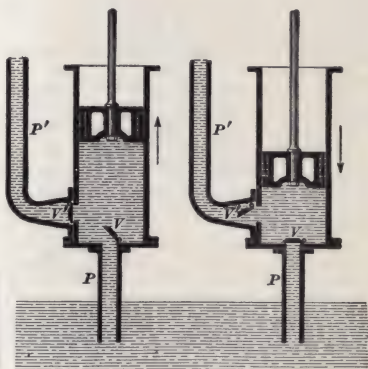

FIG. 27.
**73. Force Pumps.**—The force pump differs from the lifting pump in one important particular, that is, in the fact that its piston is solid. A section of a force pump is shown in Fig. 27. As the piston ascends, as shown in the left-hand figure, the pressure of the atmosphere forces the water up the suction pipe  $P$ ; the water opens the suction valve  $V$  and flows into the pump cylinder. When the piston moves down, as shown in the right-hand figure, the suction valve is closed and the delivery valve  $V'$  opened. The water in the pump cylinder is now forced up the delivery pipe  $P'$ . When the piston again begins to move upwards, the delivery valve is closed by the water above it and the suction valve opened by the pressure of the atmosphere on the water below it.